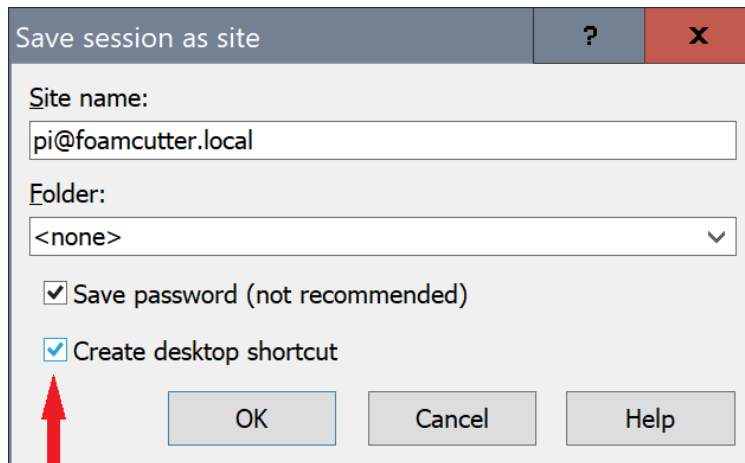

Figure 1.6: WinSCP Setup continued
4. Click save, and a window shown in fig 1.6 below should pop up. Both "Save password" and "Create desktop shortcut" are recommended. Click "OK" and the setup for WinSCP is completed.